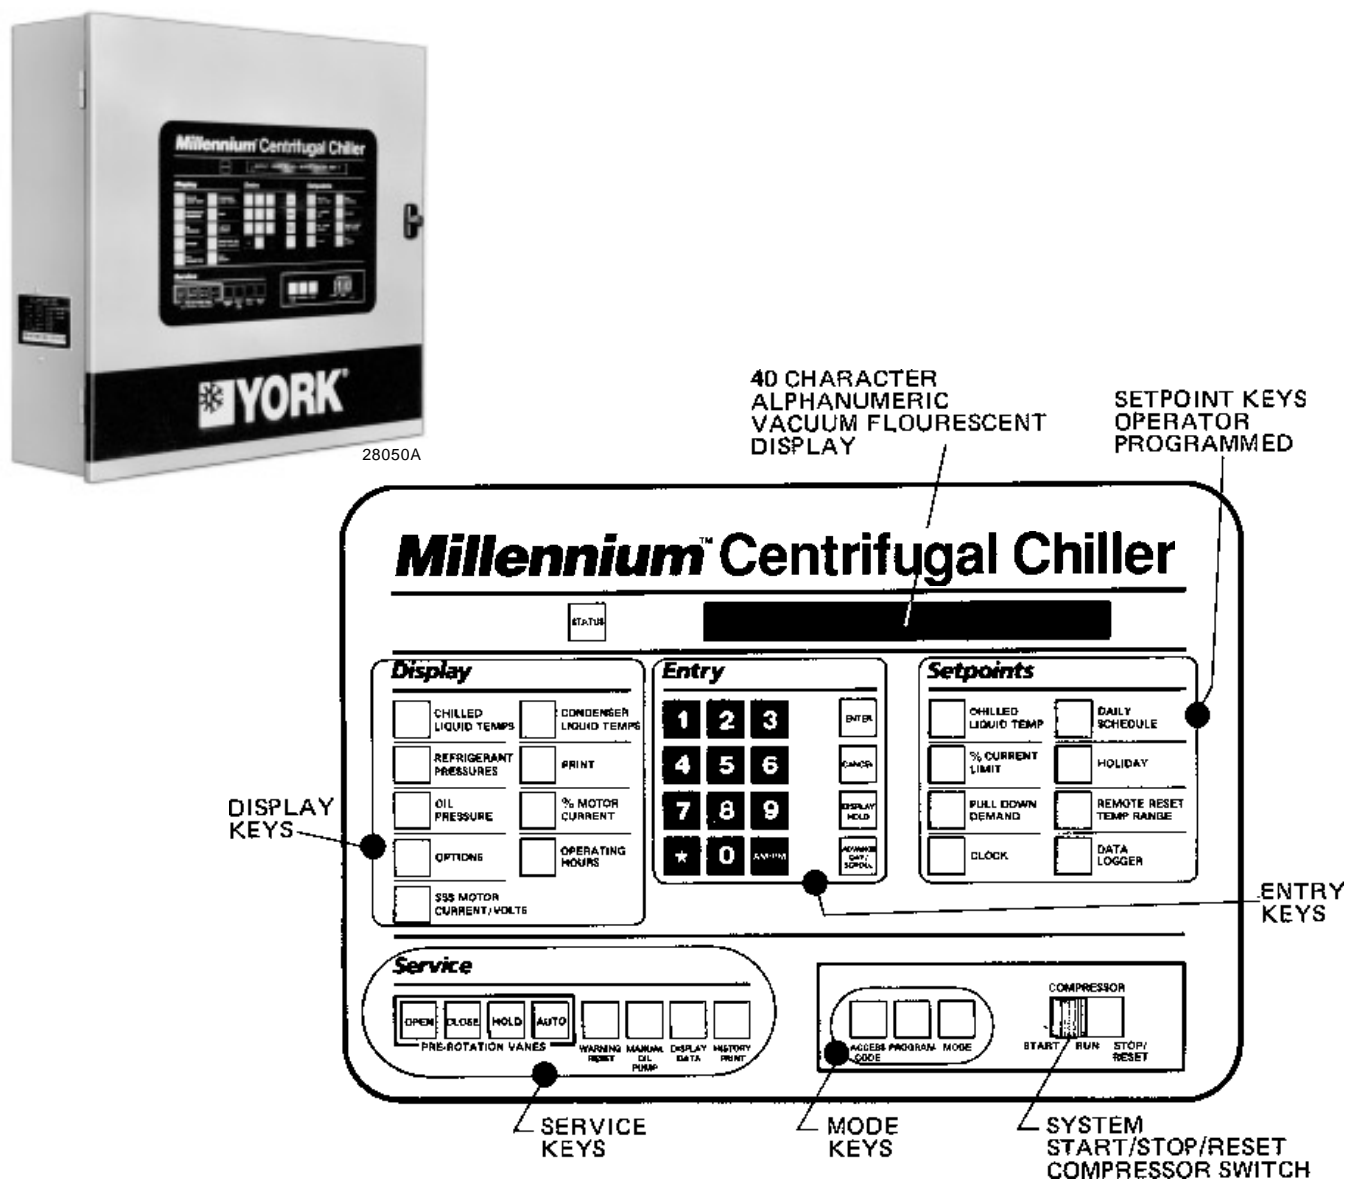

FIG. 17 - MICROCOMPUTER CONTROL CENTER AND KEYPAD
2. To start the chiller, press the "**COMPRESSOR START**" switch. This switch will automatically spring return to the "**RUN**" position. (If the unit was previously started press the "**STOP/RESET**" side of the "**COMPRESSOR**" switch and then press the "**START**" side of the switch to start the chiller.) When the start switch is energized the Control Center is placed in an operating mode and any malfunction will be noted by messages on the 40 character alphanumeric display. (See Fig. 17)